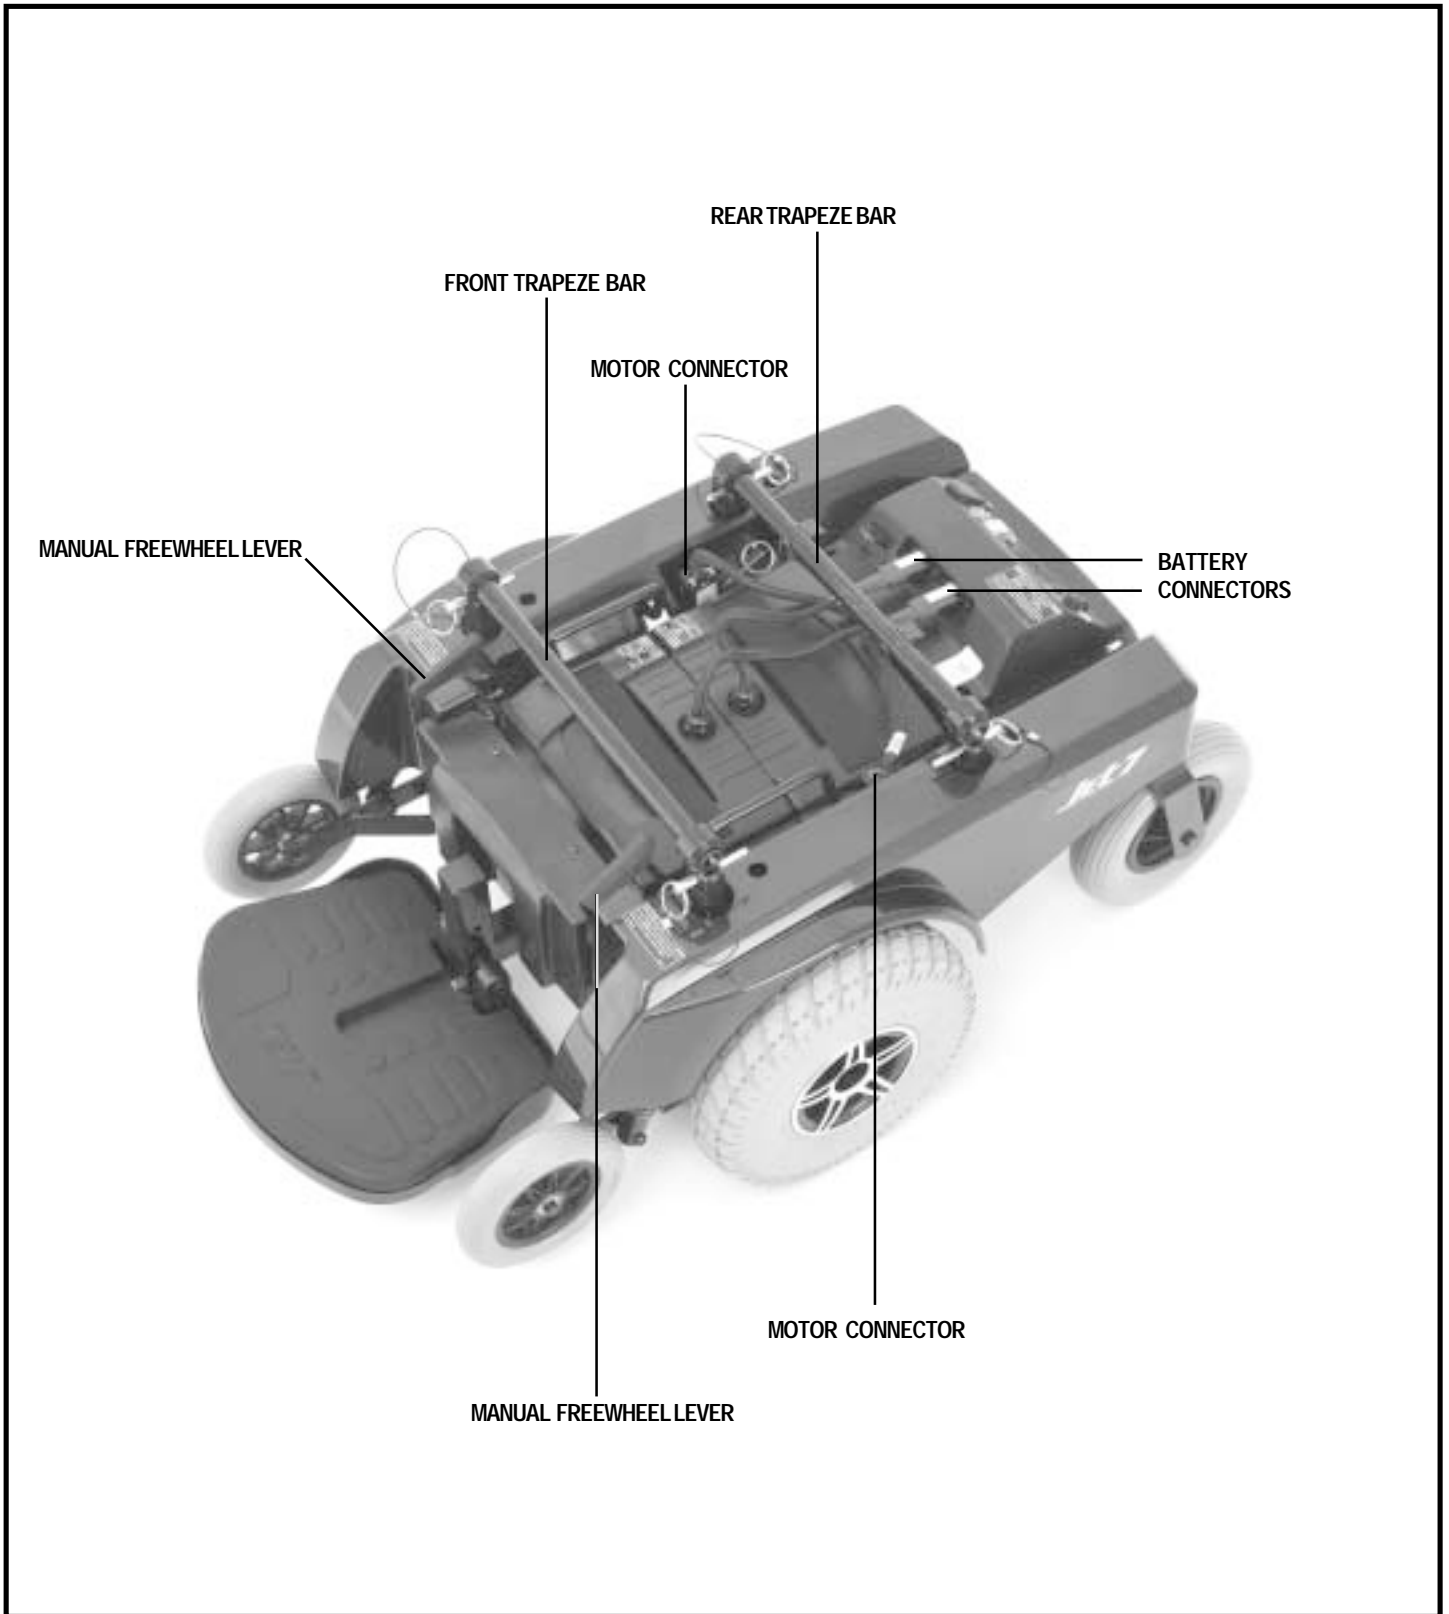
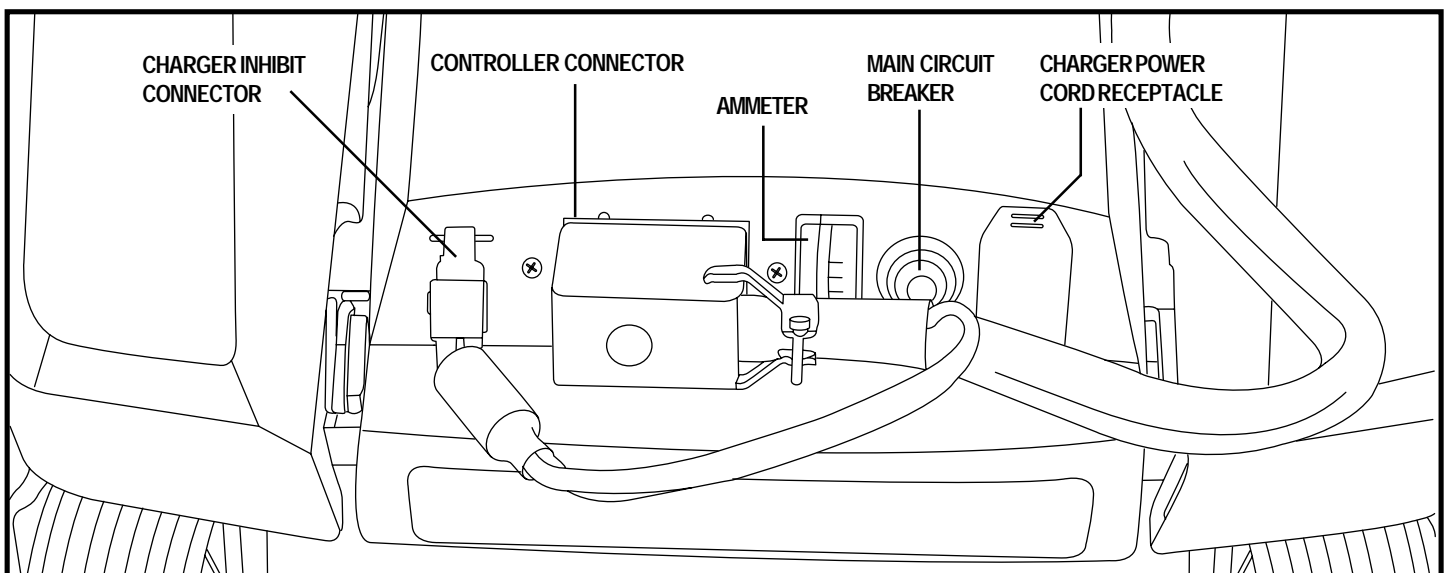

Figure 6. Jet 7 Power Base
Figure 7. Electronics Tray
The electrical components are located on the power base. The battery connectors and motor connectors are located at the rear of the power base. See figure 6. The ammeter, main circuit breaker, controller connector, charger power cord receptacle, and the charger inhibit connector are located on the electronics tray. See figure 7.
2. Disconnect the controller connector from the electronics tray. See figure 7.
3. Disconnect the charger inhibit connector from the electronics tray. See figure 7. Squeeze the latch release levers on the connector and pull it firmly from the socket.
9. Disconnect the battery connectors and the motor connectors from the power base. See figure 6.